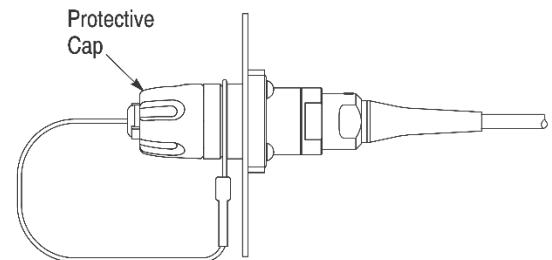

Figure 17
2. Install the connector through the front or back of the panel (refer to Step 9 of Paragraph 5.6) so that the flange O-ring on the square-flange housing is flat against the panel. See Figure 17, Detail A.
4. Fit the loop of the tether wire around the groove at the front (threaded end) of the square-flange housing. See Figure 17, Detail B.
5. Thread the protective cap onto the housing, then hand-tighten the protective cap as shown in Figure 17, Detail C.